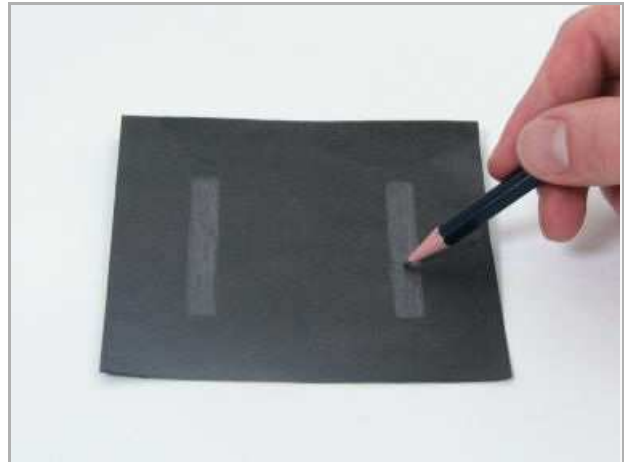

Fig. 10
- Accurately fill the marked areas with a soft pencil (Fig. 10). The graphite of the pencil creates better contact between the